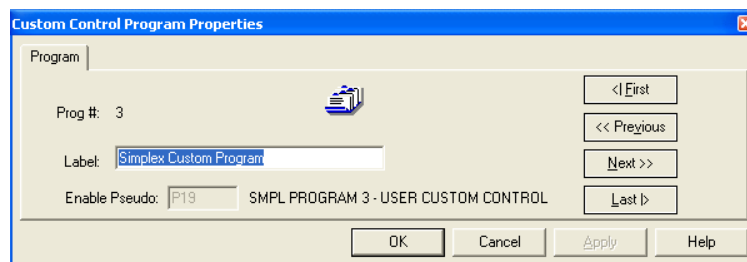

Figure 9-9. Equation Properties
2. The **Custom Control Program Properties** dialog (Figure 9-9) appears. Enter a name for the equation in the Label field and click on **OK**.